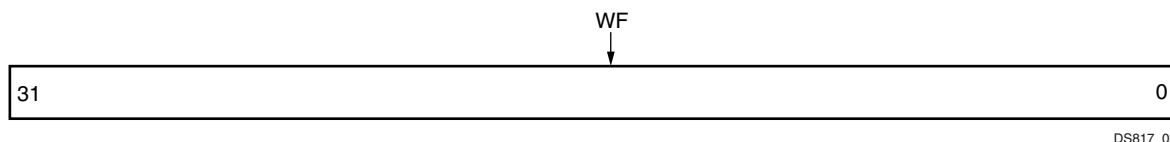

Figure 2: Write FIFO (WF)
The Write FIFO (WF) register shown in Figure 2 is a 32-bit Write FIFO. The bit definitions for the Write FIFO are shown in Table 5. The offset and accessibility of this register from C\_BASEADDR value is shown in Table 4.